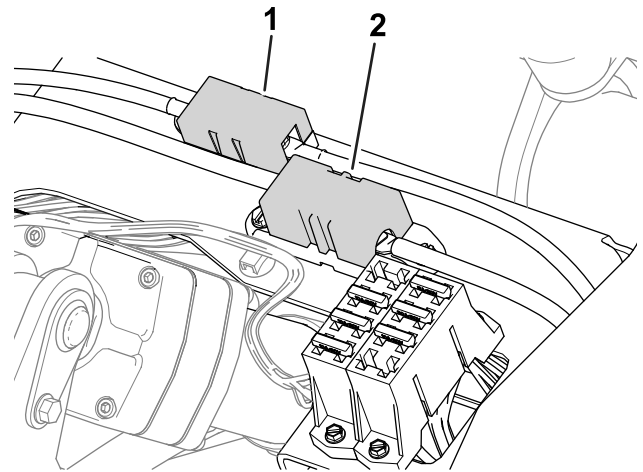

Figure 53
- The fuses for the generator (100 A) and the right wheel motor (60 A) are located under the seat (Figure 53).